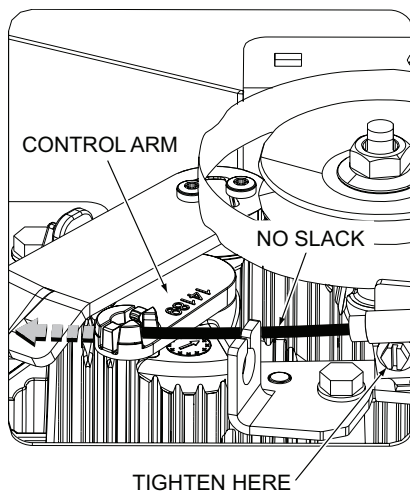

Figure 6-4. Transmission Control Arm and Spring
9. On the transmission, move the control arm all the way to the left. See Figure 6-4.
10. Adjust the cable until there is no slack in the cable between the control arm and cable sheathing. See Figure 6-4.